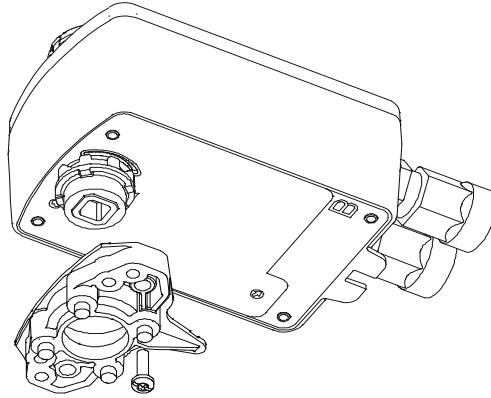

Figure 7: Installing the linkage
5. Install linkage base on Side B using the two #8-32 x 0.625 in. long screws (Figure 7). The recommended torque is 29 to 33 lb·in. (3.3 to 3.7 N·m).